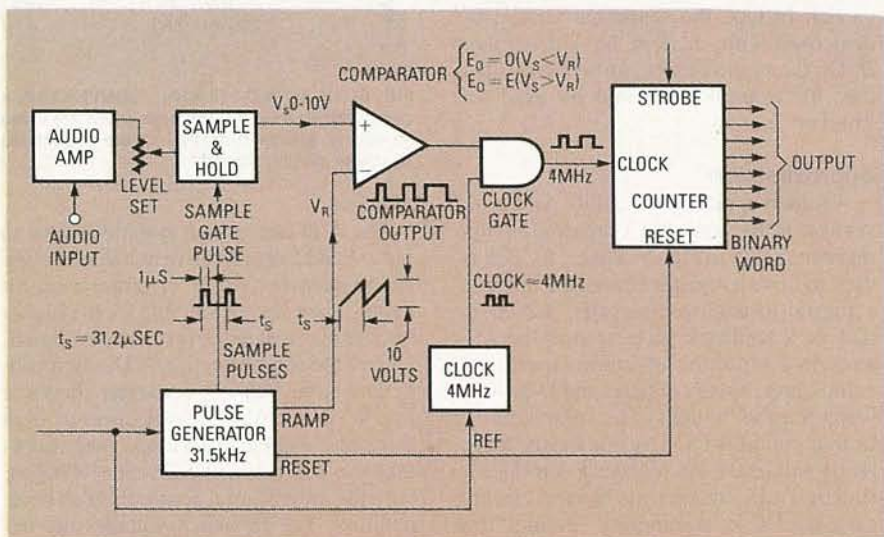

FIG. 3—A COMPARATOR can be used to digitize an analog signal at TTL levels.
Figure 3 shows how an audio signal can be digitized. The output from the audio amplifier is level-set for proper dynamic range, and then sampled every 31.2 microseconds (31.5 kHz rate). The analog value is stored in a sample-and-hold circuit until the next sample is taken; let us assume it may be any value between zero and ten volts. That analog level is then fed to one input of a comparator. The other comparator input is fed with a linear ramp (sawtooth) whose amplitude rises from 0 to 10 volts. (The ramp starts slightly after the sampling interval and ends just before the next audio sample is taken, because some time must be reserved for sampling and resetting the ramp to zero.) If the audio sample is relatively large (say 7 to 10 volts) in amplitude, the ramp will have to rise to that value before the comparator's output voltage will drop to zero. If the analog sample is small (say 1 volt), the comparator will drop to zero when the ramp exceeds one volt. (The comparator's output is a logic high (1) when $V_S > V_R$, it is a logic low (0) when $V_S < V_R$. Therefore, the comparator output is a train of pulses having a frequency of 31.5 kHz and a pulse width ranging from nearly zero to 30 microseconds (depending on the sample amplitude.)